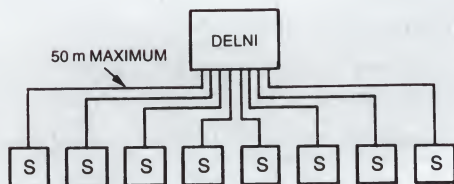

Figure A-7 ■ Stand-alone DELNI
- You can attach up to eight stations to a DELNI using approximately 5 to 50 meters (16.5 to 165 feet) of transceiver cable for each station (Figure A-7). A station can be a PC, host, bridge, terminal server, router, or SNA Gateway. The maximum allowable length of cable depends on the station type. Refer to the *DECconnect System Planning and Configuration Guide* for full details.